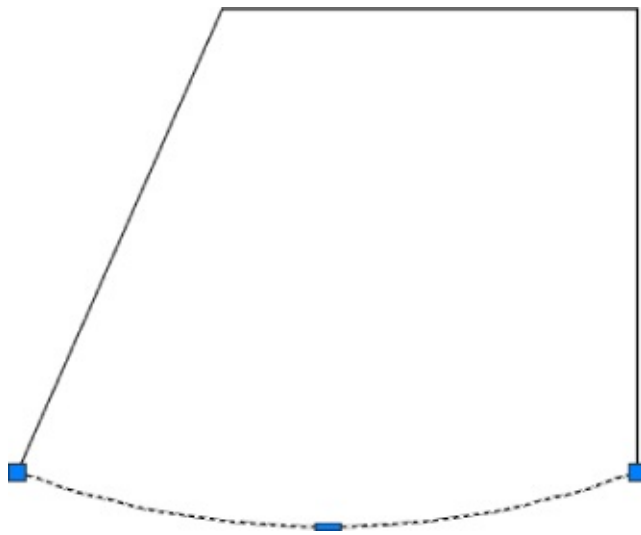
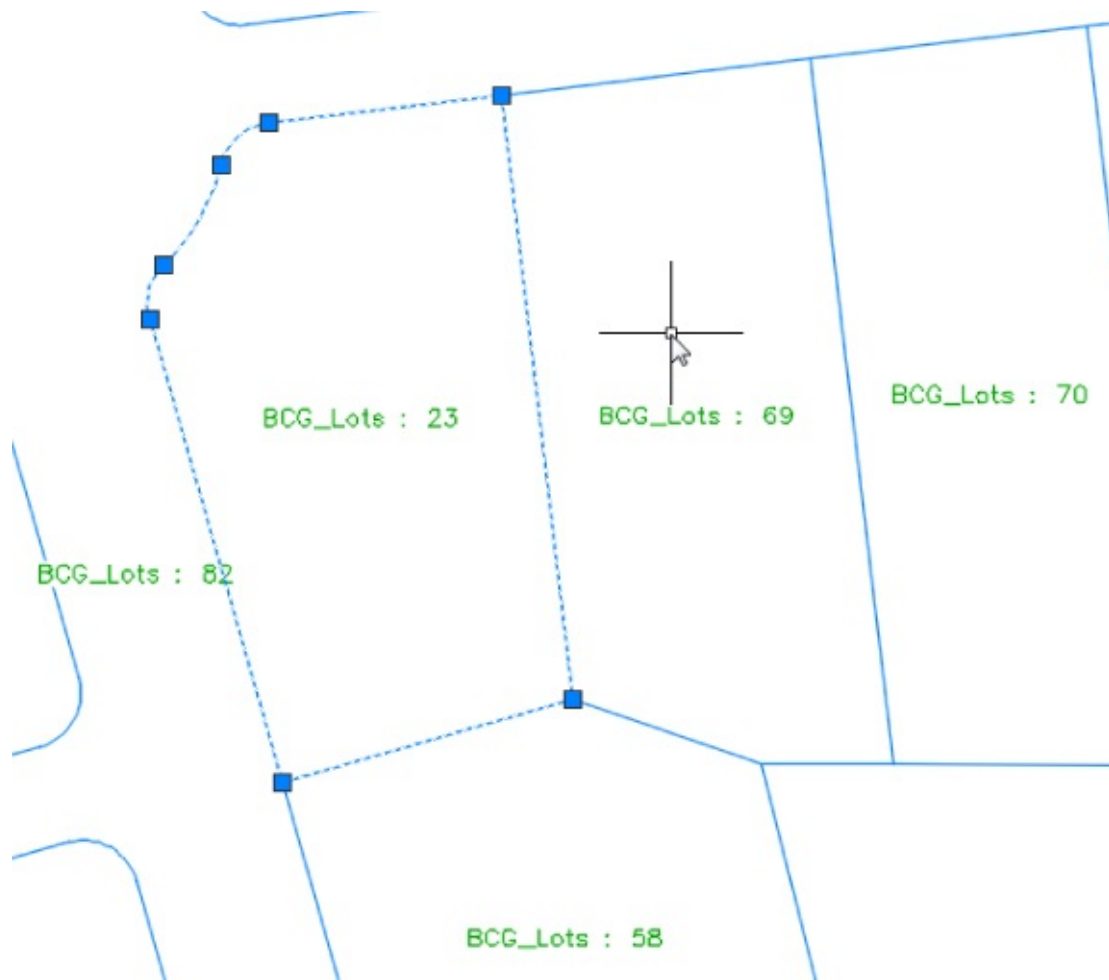

Figure 5.40 The highlighted segment will be erased.
Figure 5.41 Using the Delete Sub-Entity tool to erase the east parcel segment for Parcel # 23
- If a series of parcel segments was originally created using lines or arcs (or similar parcel layout tools, such as the precise sizing tools), then AutoCAD Erase erases each segment individually (see Figure 5.40).
The Delete Sub-Entity tool acts more like the AutoCAD Trim tool. The Delete Sub-Entity tool erases only the parcel segments between parcel vertices. For example, if Parcel # 69, as shown in Figure 5.41, must be absorbed into Parcel # 23 based on the fact that the parcel changes ownership, you'd want to erase only the segment on the east of Parcel # 23 and not the entire segment shown previously in Figure 5.40. If you look at the Parcel #23, you will notice that it is made up of a series of segments. If we had tried to use the AutoCAD Erase command, then the whole series would have been deleted, but since we want only the east segment, then the Delete Sub-Entity tool will accomplish that.